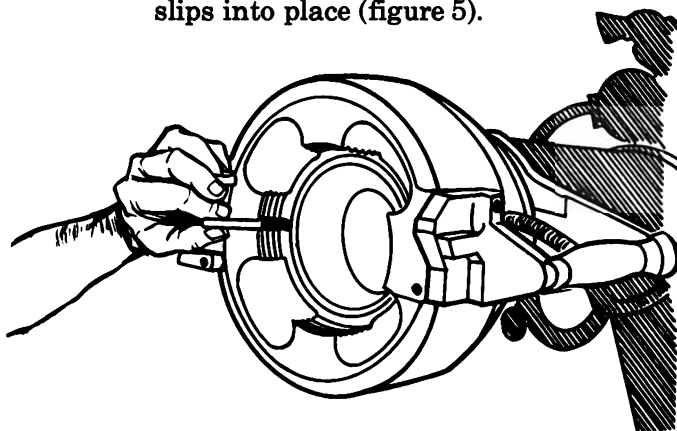
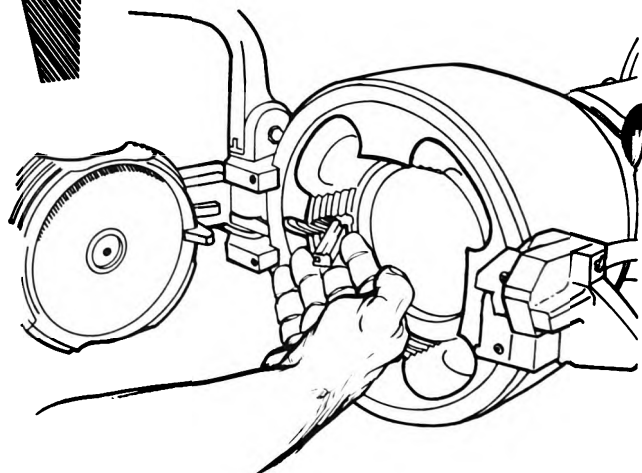

Figure 4.
Figure 5.
(1) Position the detent fulcrum (number up) in the detent recess in the vent bushing so that the tip end of the detent is facing the hingeblock (figure 4). Rotate the detent about 45 degrees to the left until action of the detent spring no longer causes movement of the detent. Take out the detent and put the fulcrum (number down) into the recess so that the tip end of the detent is toward the chamber. Apply pressure on the fulcrum end so that the detent slips into place (figure 5).